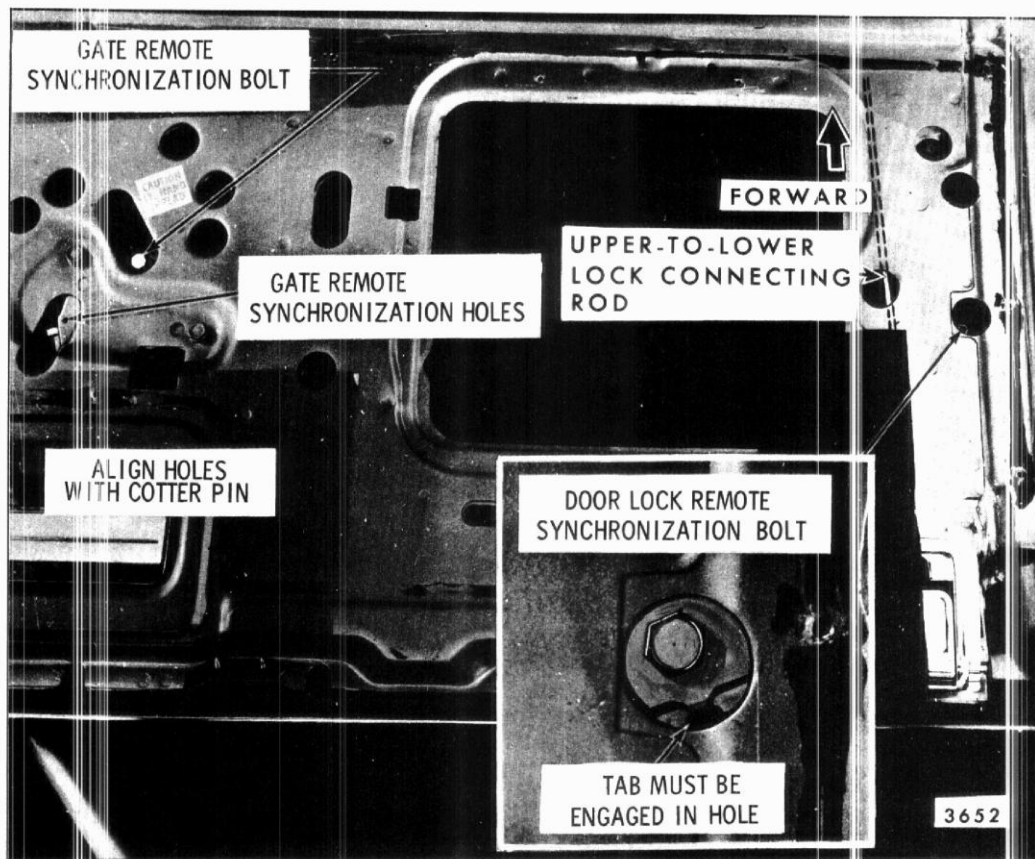

Fig. 9-41-Dual Acting Tail Gate Lock Synchronization Check
5. With all locks in locked position, visually check gate remote synchronization holes in gate remote control levers (center of gate as shown in Figure 9-41). If holes line up, proceed with step 7. If holes do not line up, loosen (turn to right
approximately three turns gate remote control synchronization bolt (this bolt has left hand threads). With synchronization bolt loose, check that there is no bind in remote levers. Align holes by inserting cotter pin through alignment hole in both levers (Figure 9-41). Then, tighten synchronization bolt to 57-87 INCH lbs. REMOVE COTTER PIN.
6. With all locks in locked position and with the right lower lock securely engaged with the striker, loosen approximately three turns the door lock remote synchronization bolt at the right upper lock (See Fig. 9-41).
loosened. However, to assure that the levers automatically assumed their proper position, reach in through access hole and hold lower-to-upper lock connecting rod FORWARD (Figure 9-41) while tightening door lock synchronization bolt to 76-116 inch lbs. Make sure tab on door lock remote synchronization lever is properly engaged in hole (See Figure 9-41).
**NOTE:** The action of loosening the lock synchronization bolt can readily unlock the right lower lock causing the right side of the gate to disengage from the lock striker. To help prevent this from occurring, reach through access hole and hold the upper-to-lower lock connecting rod (See Fig. 9-41) FORWARD while loosening synchronization bolts.